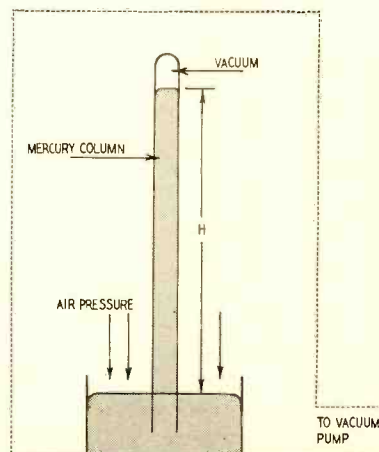

Fig. 2—Mercury-column pressure gauge.
If we should take a long glass tube, sealed at one end, completely fill it with mercury and then, by holding a finger over the open end so that no air is admitted, carefully place it in a small cup of mercury (Fig. 2), the mercury will settle down and stand at some definite height (H). A vacuum will be created in the space above the mercury column. The height of this column will be determined entirely by the pressure of the air on the open surface of the mercury in the cup. At sea level this
will be about 760 mm. If the air pressure is reduced by taking this device to some great altitude, as for example, to the top of Mount Everest, the air pressure will be able to support the mercury column to a height of only about 235 mm. If we enclose this mercury tube inside a tight box (dotted lines in Fig. 2) and attach a vacuum pump to the box to reduce the pressure further, the mercury column would fall still lower.
height as so many millimeters of mercury. This is usually abbreviated to "mm Hg." The mercury manometer (Fig. 2) is not useful for measuring pressures below 1 mm or so, other gauges being used for this purpose. Yet the unit (mm Hg) is still used to indicate the degree of partial vacuum obtained.